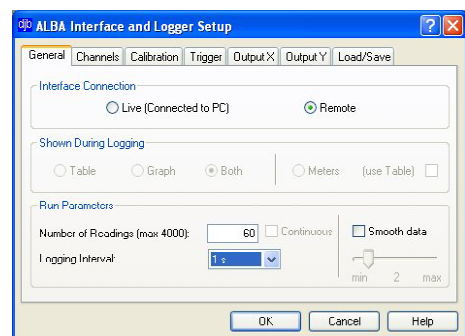

Figure 71
- 60 readings at 1 second intervals (Figure 71).